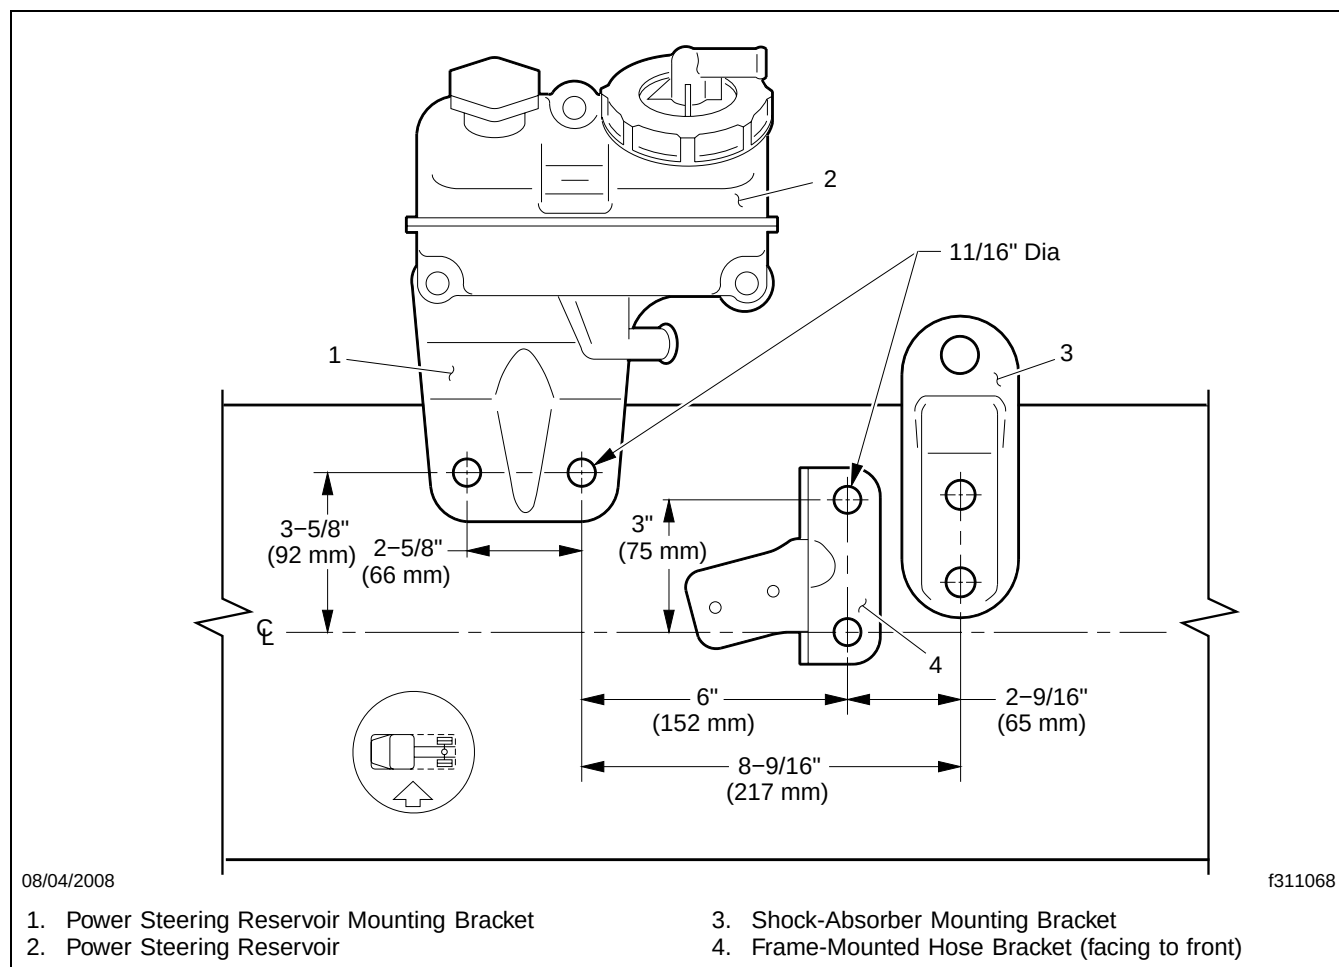

Fig. 3, Drilling and Mounting Locations
14. Mark the layout of the holes on the frame, using the drilling diagram. See **Fig. 3**.
29. Install the frame-mounted hose bracket, as shown in **Fig. 3**.